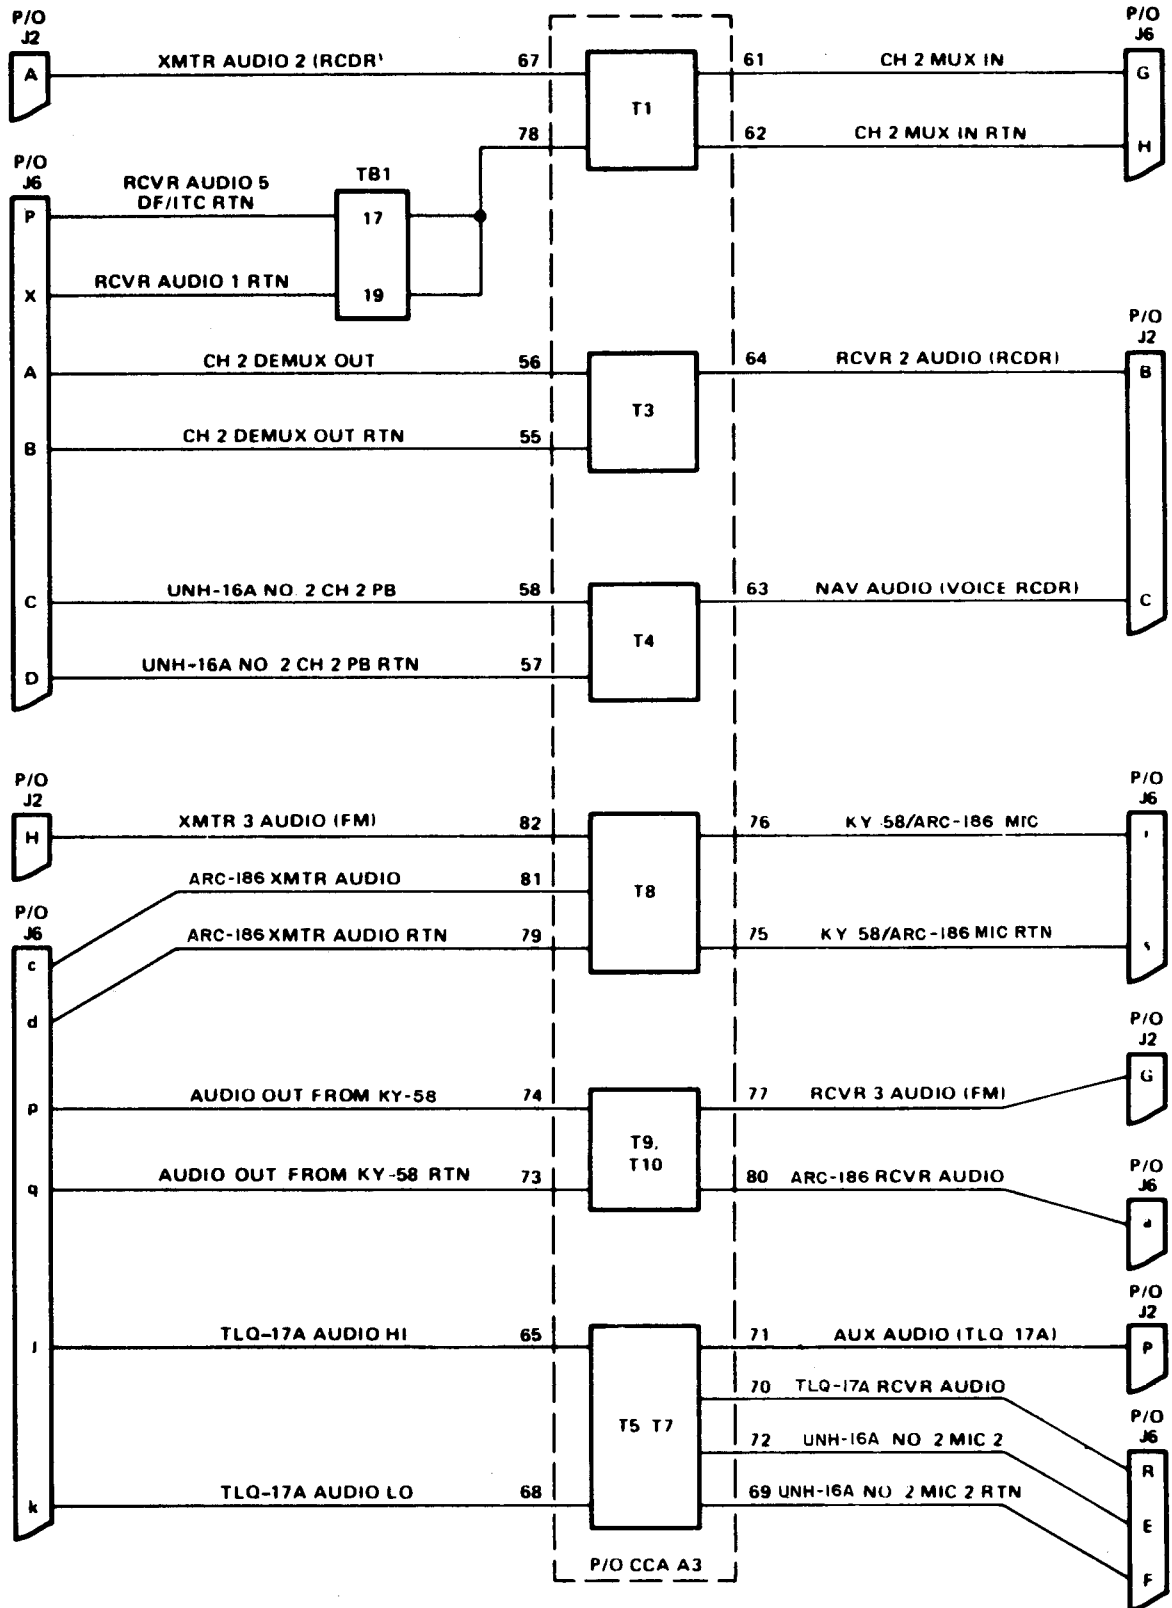

Figure 3-1. Countermeasure Control Audio Circuits Simplified Schematic Diagram
(1) Audio Signal Conditioning Circuits. As shown in figure 3-1, the XMTR AUDIO No. 2 (RCDR) input at connector pin J2-A passes to the primary winding of transformer T1. The primary winding also receives the audio return inputs at connector pins J6-P and J6-X through terminal board connections TB1-17 and TB1-19. The secondary winding of transformer T1 passes the audio signal through connector pins J6-G and J6-H to external system equipment.